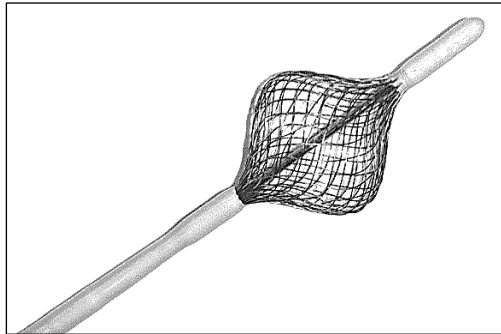

Figure 1: RheOx[®] Catheter Electrode Expanded
4. Hold the RheOx Catheter handle in your hand. Pull on the knob, ensuring that the electrode expands. Verify that the electrode expands fully and evenly. See **Figure 1**.